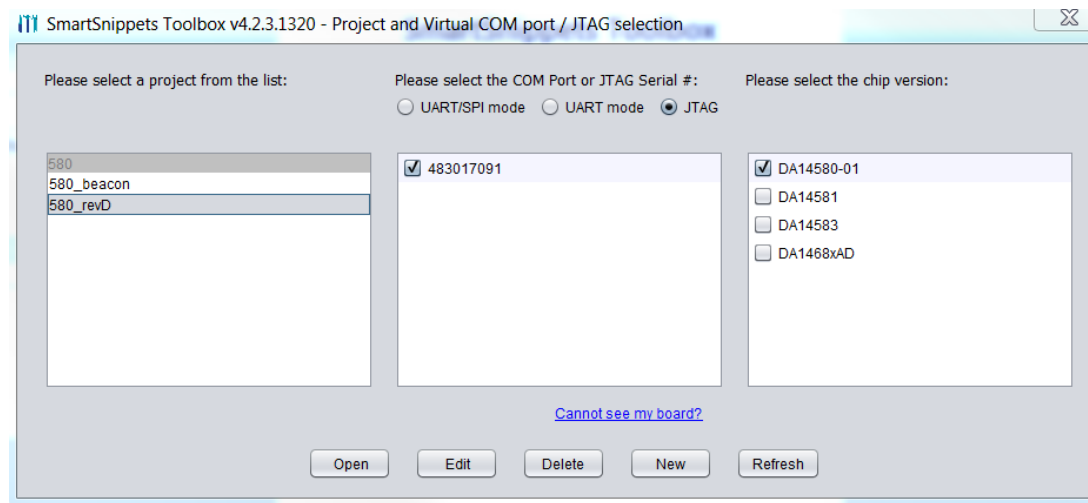

Figure 96: Initial Window to Choose Device and Connection Type
- Open SmartSnippets Studio > SmartSnippets Toolbox. The following dialog (Figure 96) appears: